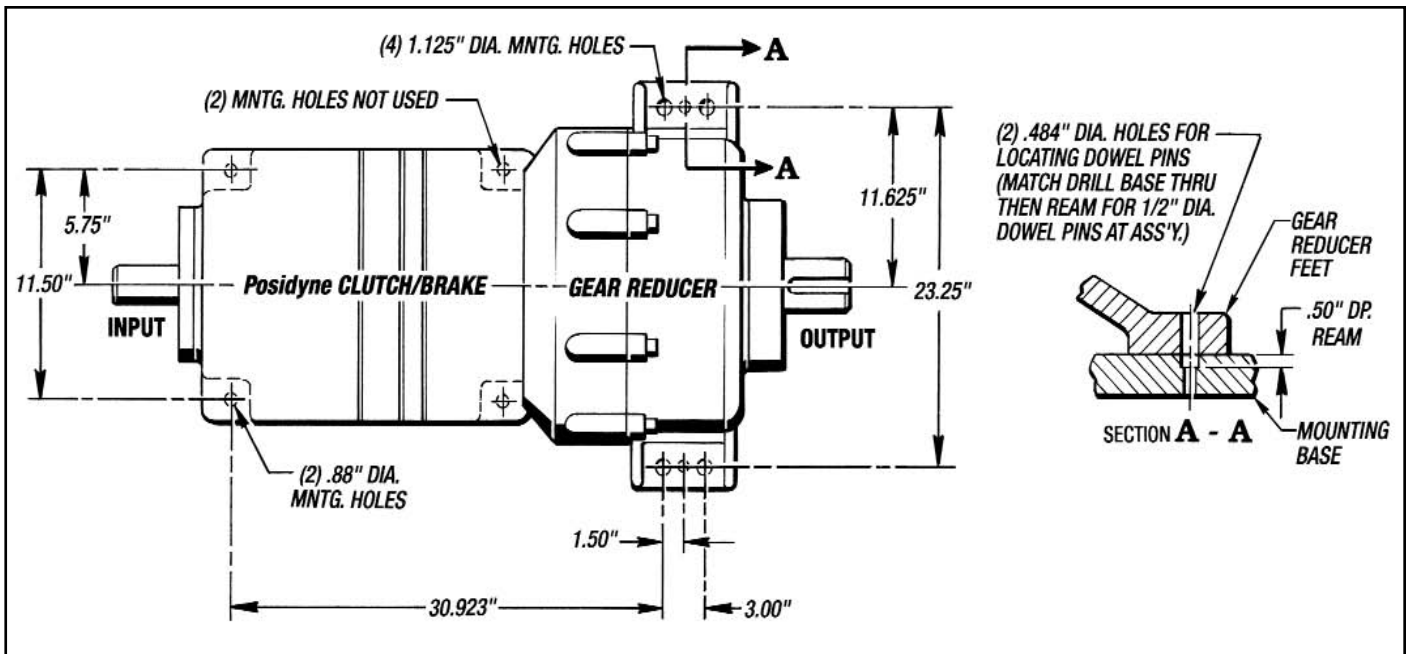

Figure 2 - Size 20P Posidyne Mounting Hole Layout and Mounting Dowel Pins Installation
The primary attachment to the machine frame or base must be done off the (4) mounting holes on the Planetary Gear Reducer. The (2) mounting feet on the *Posidyne* Output Housing are not used. A nominal 1/2" Spacer plus shims has to be used under the *Posidyne* Input Housing feet to take up the gap for vertical alignment. (See *Figure 2* for Mounting Hole Layout.) After final installation and alignment to driving and driven machinery is completed, (2) removable dowel pins must be installed under the Planetary Gear Reducer feet. (See Section E on next page for procedure.)
1. Drill (2) .484" Dia. holes through the machine base, using the (2) .484" Dia. holes in the feet of the Gear Reducer Main Housing (#800) as pilot holes as shown in Figure 2.